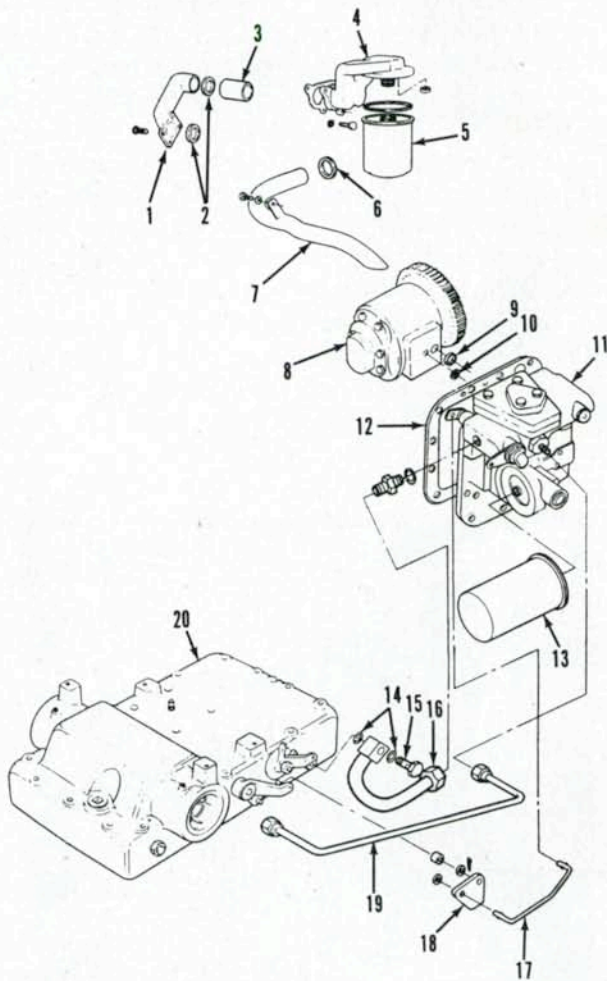

Fig. 279—View showing connections between lift cover and pump adapter plate.
Reinstall pump using new "O" rings and gaskets. Tighten pump to adapter plate cap screws to a torque of 22 ft.-lbs. (30 N·m) and adapter plate to center housing cap screws to a torque of 35 ft.-lbs. (47 N·m). Be sure that both tubes (3 and 7—Fig. 279) enter inlet filter manifold (4). Tighten manifold retaining cap screws to a torque of 25 ft.-lbs. (34 N·m). Reconnect control rods and hydraulic lines. Install remote control valves with new "O" rings and tighten retaining cap screws to a torque of 23 ft.-lbs. (30 N·m). In-